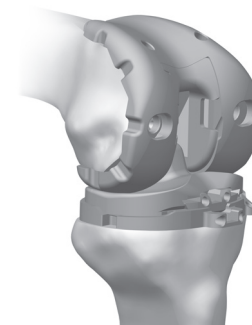

Fig. 8
- Upon completion of femoral, tibial, and patella preparation, insert all provisionals and check the range of motion and joint stability (Fig. 8). In addition, ensure that the *Trabecular Metal* Tibial Sizing Plate is in uniform contact with the resected tibia. Perform any necessary soft tissue releases. After the trial reduction is complete, remove all provisionals.